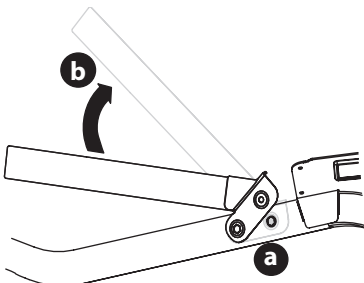

Figure 2
1. Remove the two hex washer screws (a) partially installed on the frame (Figure 2).
2. Rotate the upper hoop (b) into position (Figure 2).